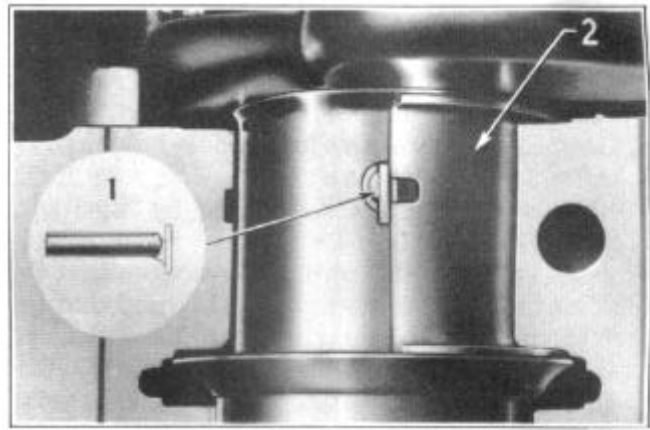

FIGURE 14
3. Install Upper Bearing Shell Removing Tool KMO-734 in oil hole of crankshaft and turning crankshaft in usual rotation, the hinged head of the pin will engage the upper half of the bearing and turn it out with the rotating action of the crankshaft, Figure 14.
1. After the proper bearing sizes have been selected, start the upper shells in place, and with KMO-734 Bearing Shell Remover and Replacer Tool entered in oil hole of crankshaft and with hinged head of Replacer against bearing end, rotate crankshaft, pulling the bearing into position, Figure 14.